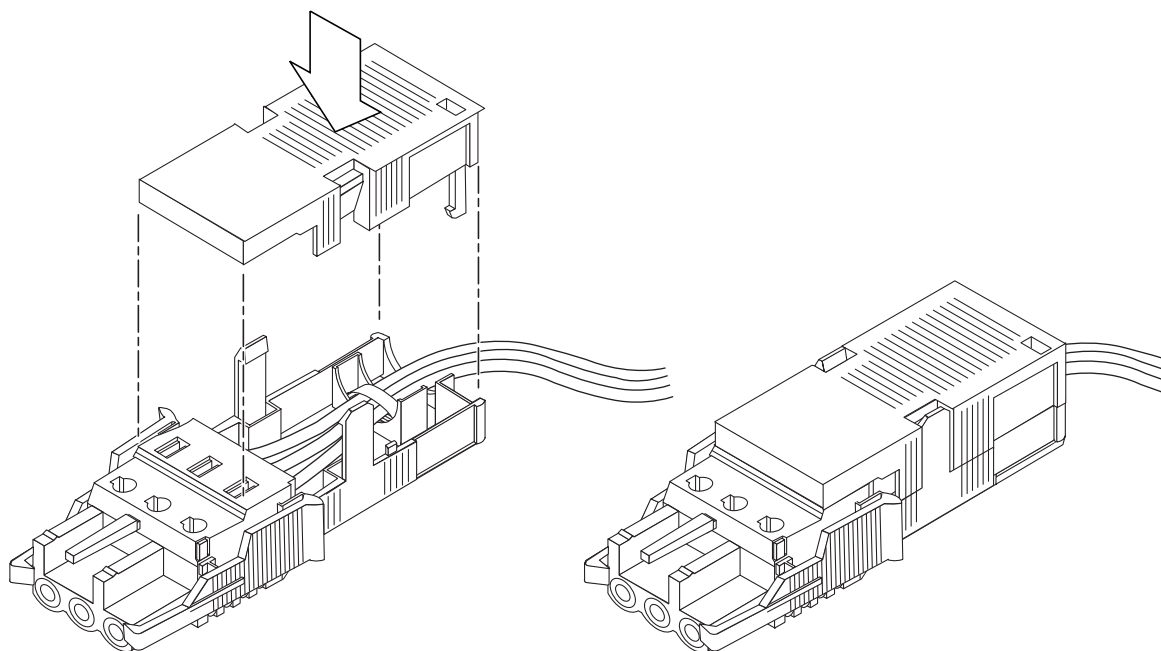

FIGURE 3-8 Assembling the Strain Relief Housing
- 5. Lower the top portion of the strain relief housing so that the three prongs on the top portion insert into the openings in the DC connector, and push the top and bottom portions of the strain relief housing together until they snap into place (see FIGURE 3-8).**